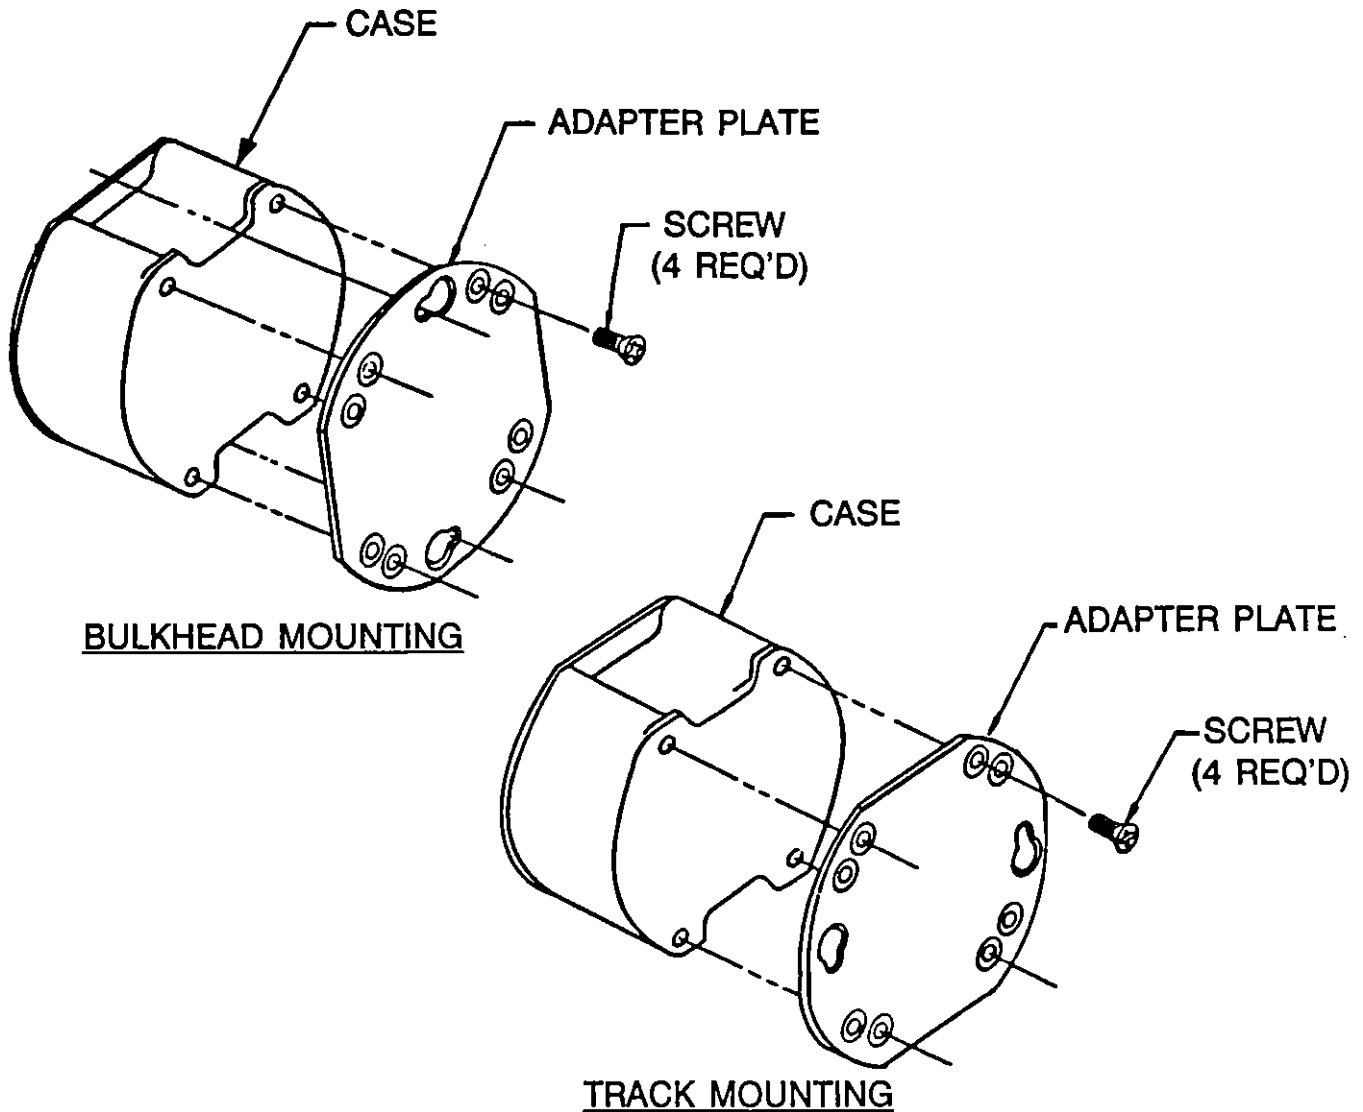

Figure 3-2 Bulkhead and Track Mounting
- a. Adaptor plate for either front-screw-entry surface mount, or TR2/2TK relay track mount (see Figure 3-2).